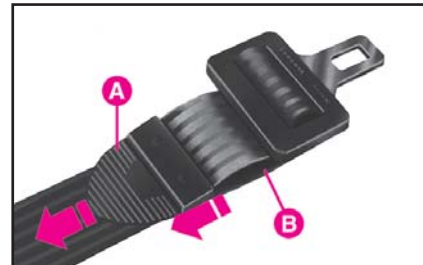

fig. 10
- To lift; lift the loop **A**-fig. 10.